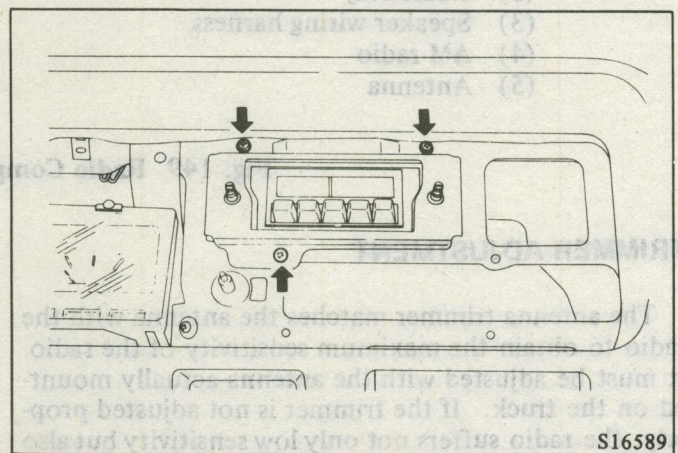

Fig. 153 Removal of the Radio
- (1) Remove the instrument cluster bezel. (Refer to GROUP 8, Removal of Instrument Cluster.)
- (2) Remove the radio bracket attaching screws from the instrument panel, and remove the radio bracket. (Fig. 153)